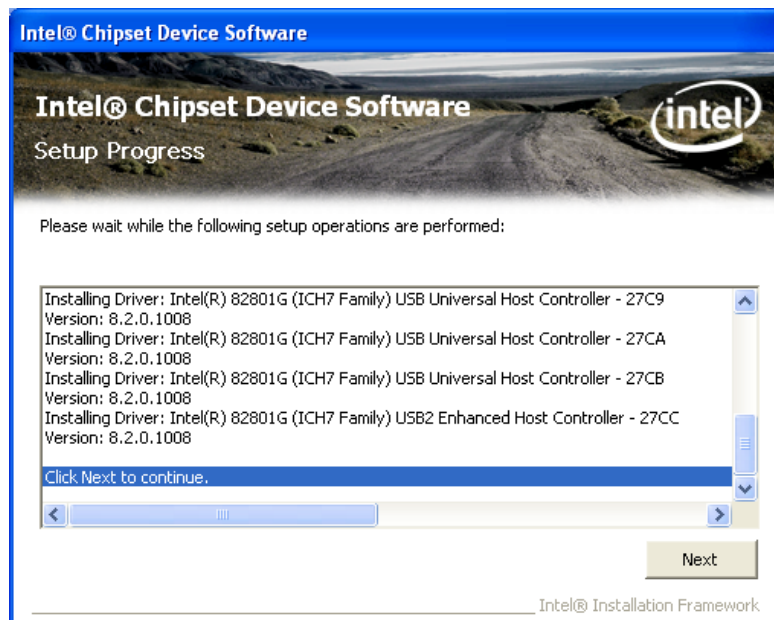

Figure 6-6: Chipset Driver Setup Operations
Step 12: **Setup Operations** are performed as shown in **Figure 6-6**.